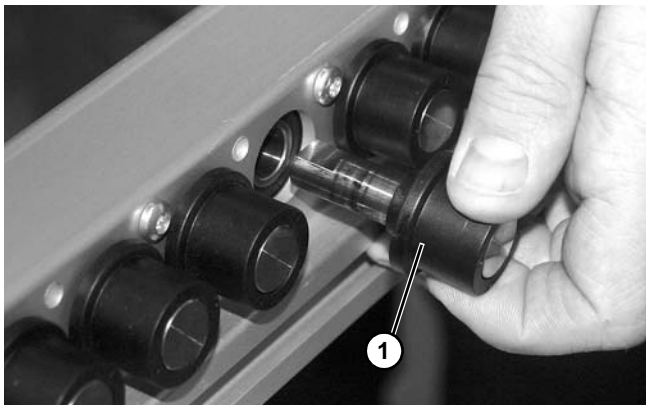

Figure 42
7. Remove roller assembly (Figure 42, item 1) from the conveyor frame.